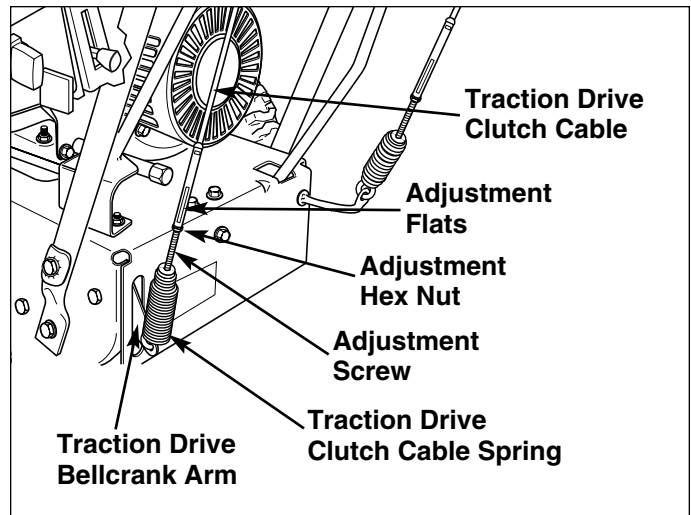

Figure 18. Traction Drive Clutch Cable Adjustment
1. Loosen adjustment hex nut (Figure 18) by holding the adjusting flats and turning adjustment hex nut.